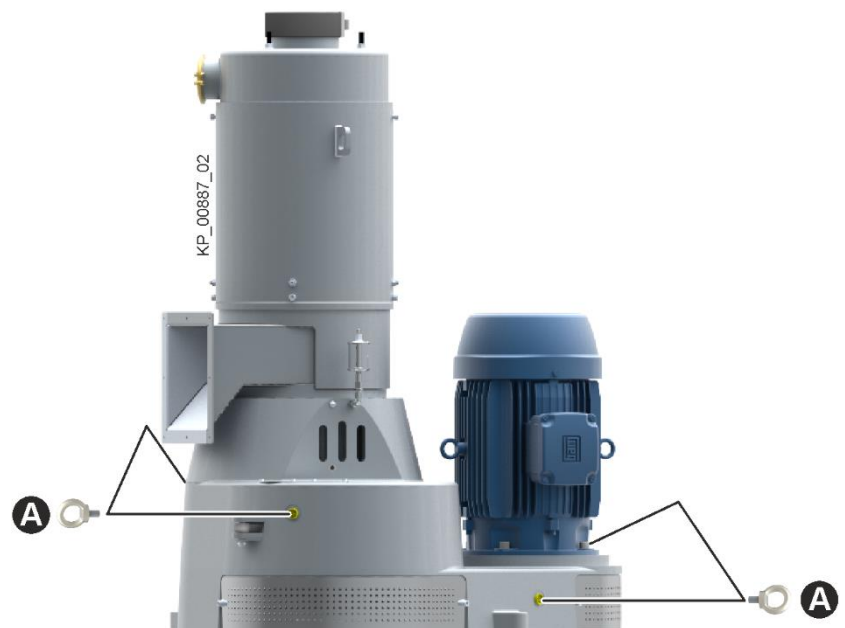

Fig. 9: Attachment points of the machine
- Mount eye bolts to the attachment points (Fig. 9/A).